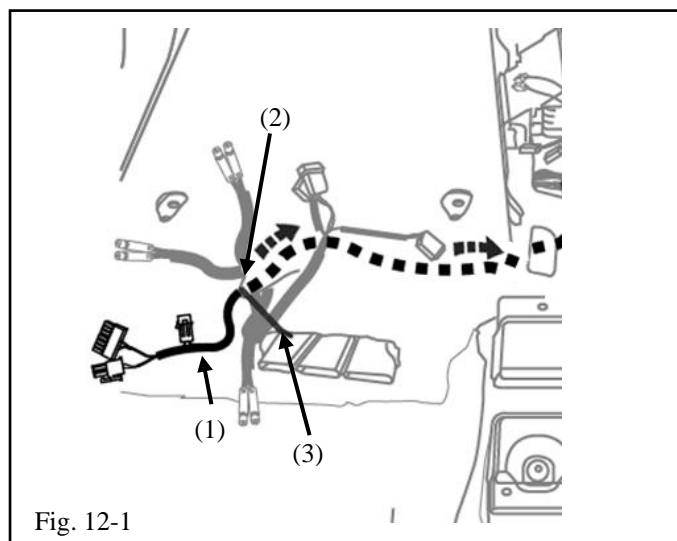

Fig. 12-1
- (1) Route the Power/Audio Interface Harness (1) from the location where AIM Bracket will be installed to the carpet opening (2) under the driver seat and toward the center console. (Fig. 12-1)
- (2) Secure the Power/Audio Interface Harness (1) to the vehicle harness using one 8" cable tie (3) at the carpet opening (2). (Fig. 12-1)